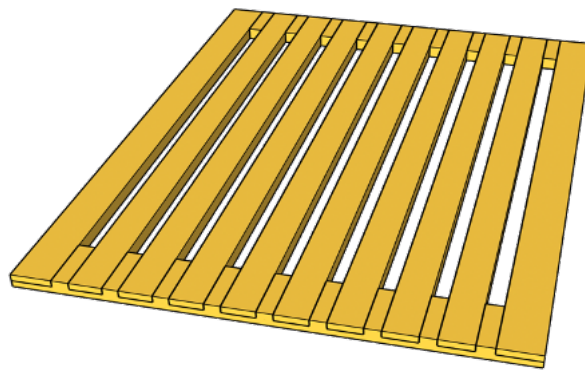

Figure 9
*(See **Figure 9** for an illustration of the bee space divider.)*